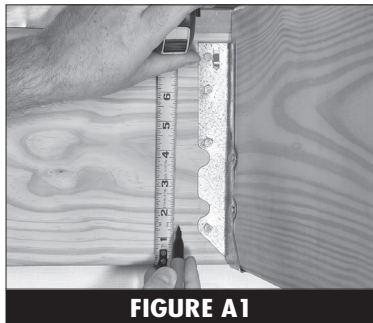

FIGURE A1
2. Draw a horizontal line onto the face of the ledger near this joist that represents the center line of the sill or plate behind. (Figure A1)